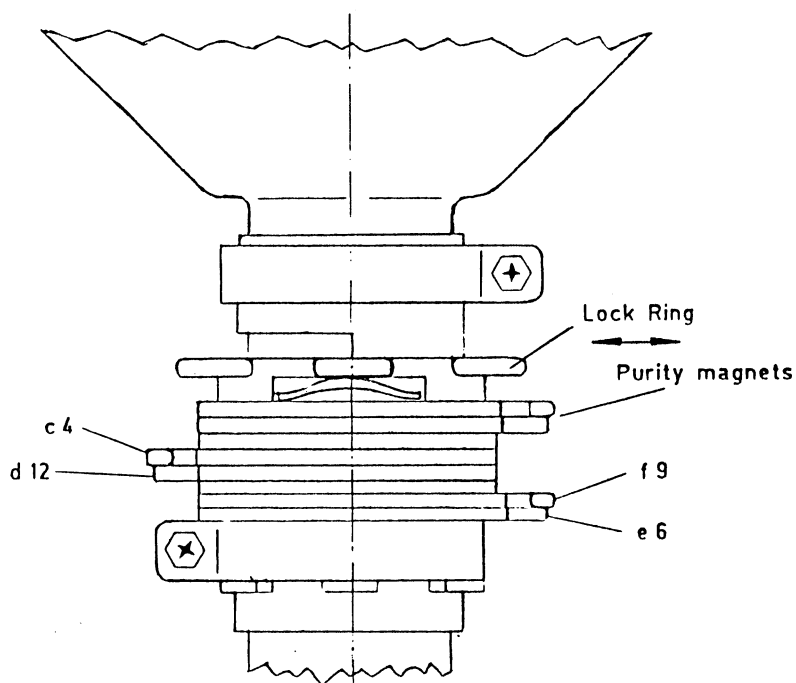

Figure 5.6 Color CRT convergence magnets
1. Display a violet grid pattern, refer to Figure 5.6.